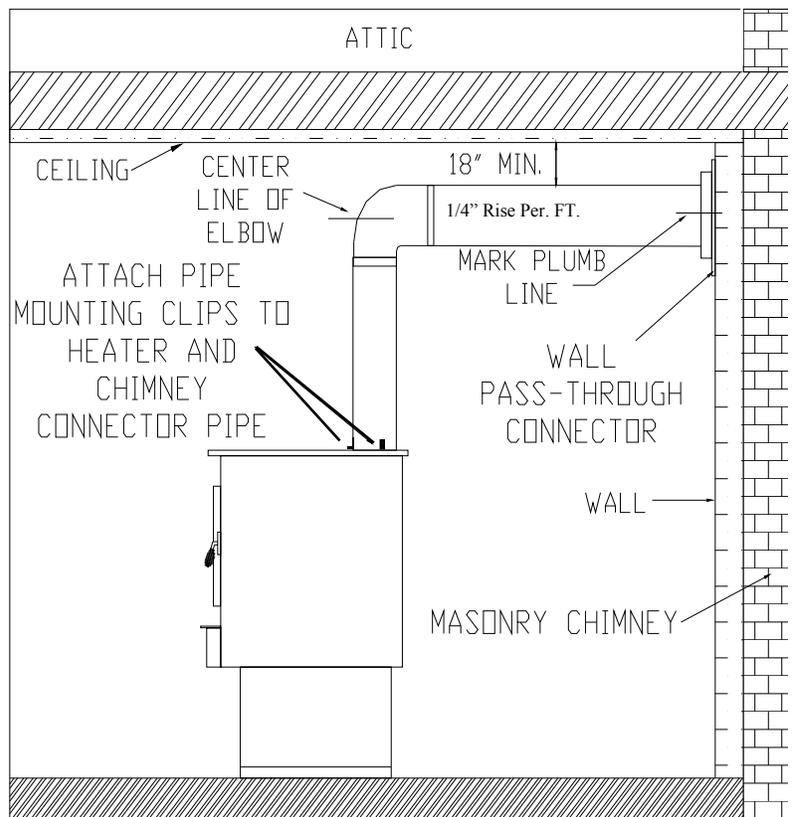

FIGURE 7
- b. Mounting clips attached to heater and chimney pipe, See Figure 7 on Page 16.
3. Measure up so there will be at least 1/4" rise per foot of horizontal connector pipe, maintaining clearances to the ceiling as noted in Figure 7. This will give you the center of the hole for the chimney penetration.
5. Connect the chimney pipe to the tee-box using #24 ga. minimum blued or black steel pipe. (DO NOT use galvanized pipe.) Each section should fit into the section below or into the opening on the stove, for drip-free operation. Secure each section together by using at least three (3) sheet metal screws or rivets.